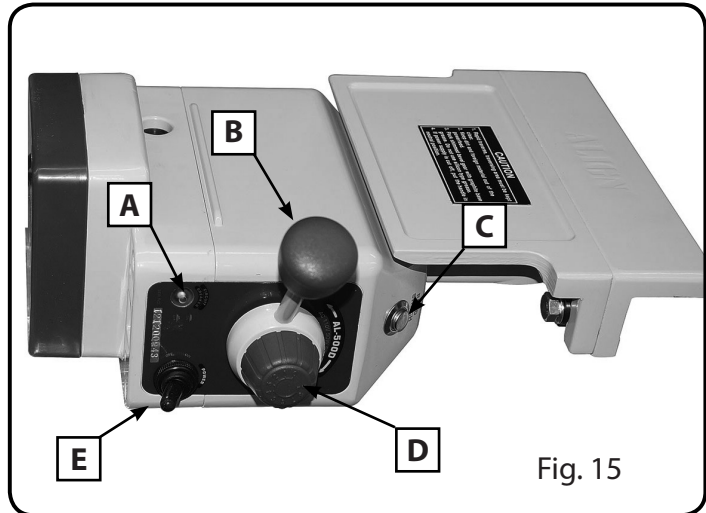

Fig. 15
View Figures 15, and 16 and the following descriptions to become familiar with the power feed controls.
B. Direction Lever: Controls direction of powered table travel. (Fig. 15)